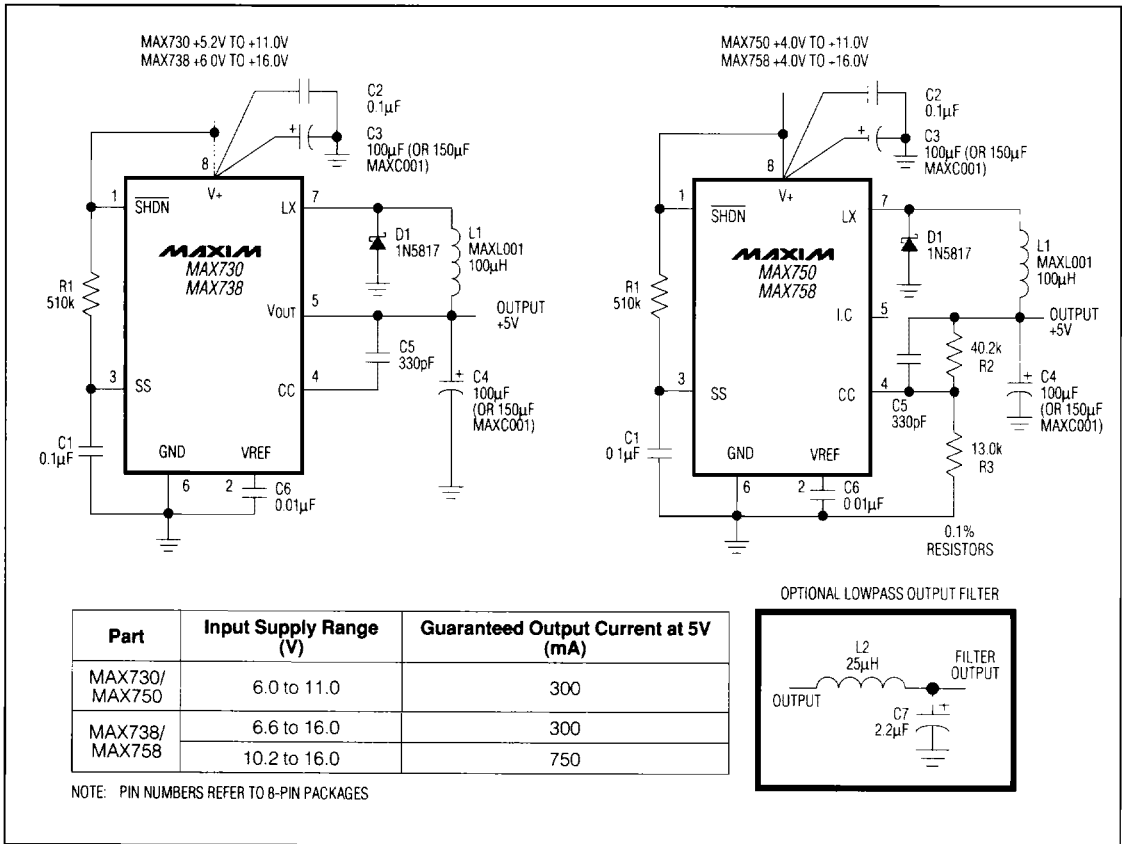

Figure 3. Standard +5V Step-Down Application Circuit
CIRCUIT OF FIG. 3, $V_+ = 12V$, $T_A = +25^\circ C$
Figure 3 shows both the standard 5V and the adjustable step-down application circuits. These circuits are useful in systems that require high current and high efficiency and are powered by an unregulated supply, such as a battery or wall-plug AC-DC transformer. These circuits will operate over the entire line, load, and temperature ranges using the single set of component values shown. All components shown are suitable for the MAX730/738/750/758. The actual value of the input and output capacitors is not critical as long as it is greater than 100 μF , has low ESR, and has sufficient voltage rating.
For other output voltages, the MAX750/MAX758 have adjustable outputs from 1.25V to the input voltage. To adjust for other output voltages, connect a voltage divider to the compensation capacitor input (CC) pin as shown in Figure 3.
A simple lowpass pi-filter (Figure 3) can be added to the output to reduce output ripple to about 5mVp-p. The cutoff frequency shown is 21kHz. Since the filter inductor is in series with the circuit output, its resistance should be kept to a minimum so the voltage drop across it is not excessive.